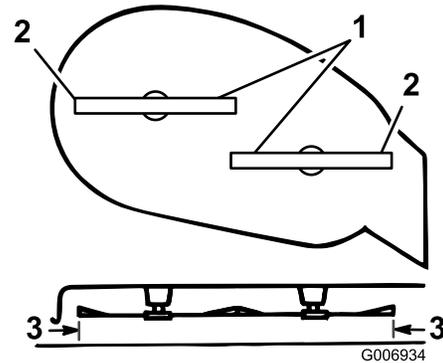

Figure 59
5. Carefully rotate the blades side to side (Figure 59).
6. Measure between the outside cutting edges and the flat surface (Figure 59). If both measurements are not within 3/16 inch (5 mm), adjust them; refer to 7 through 10.